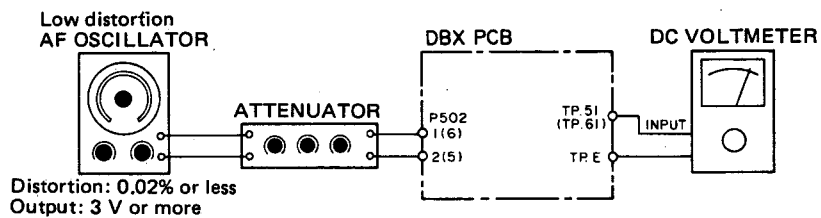

Fig. 5-11
6. Like Fig. 5-11, connect a DC voltmeter to TP51/TP61, then note the reading on the DC voltmeter with an input signal of 1 kHz/-8 dB (308 mV).
9. Check that when the input signal is 100 Hz/-8 dB (308 mV), then 10 kHz/-8 dB, the output signal from 3(4) terminal (OUTPUT) deviates by +0.5 dB  $\pm$  0.5 dB, then -2.8 dB  $\pm$  0.5 dB from -8 dB (reference), respectively ..... so that output, as a voltage value, should be 308 mV to 346 mV for 100 Hz, and 211 mV to 237 mV for 10 kHz.